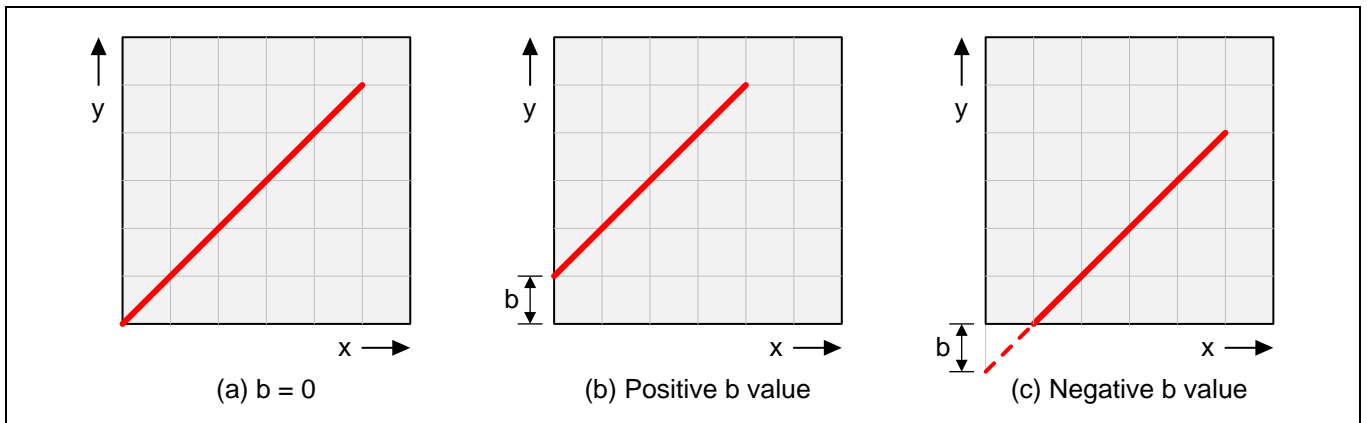

Figure 5 Generic lines with identical positive slopes
In this case, y is the value on the vertical axis (Y), x is the value on the horizontal axis (X), m is the slope of the line, and b – which is known as the y -intercept – is the point at which the line intersects the Y-axis. For the purposes of this application note, only positive slope values are discussed (and are applicable) as illustrated in Figure 5.
All three lines in Figure 5 have the same m (slope) value. The difference between the lines is the b (y -intercept) value. The line in Figure 5(a) has a b value of zero; the line in Figure 5(b) has a positive value for b ; and the line in Figure 5(c) has a negative value for b .